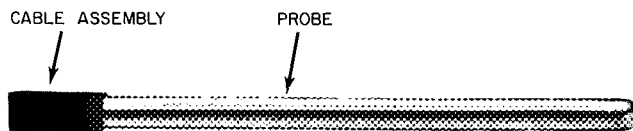
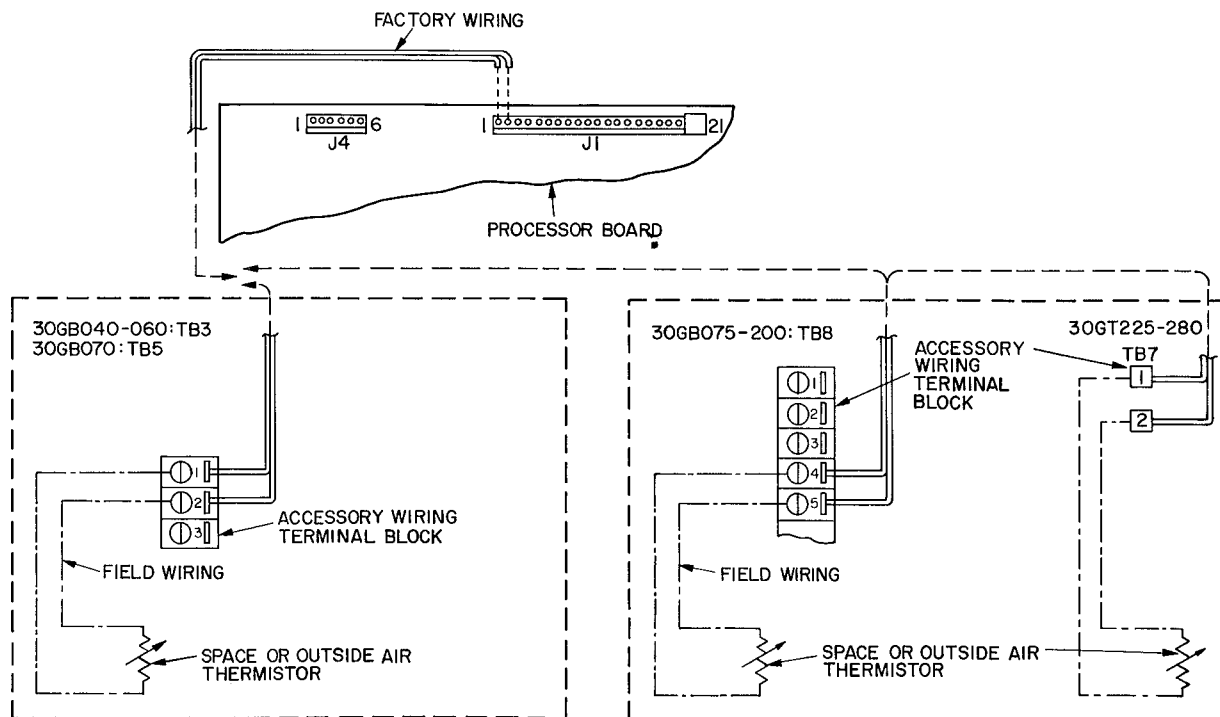

Fig. 17 — Reset Thermistor
Fig. 18 — Space/Outside Air Thermistor Wiring Diagram
6. To use space temperature reset or outside air reset, an additional thermistor must be installed. Carrier Part No. HH79NZ014 should be used for this purpose (see Fig. 17), it is included in Service Parts package no. 30GB660002. The thermistor should be connected to the terminal block as shown in Fig. 18. To avoid electrical interference DO NOT run the thermistor wire near line voltage wiring, electrical machinery, large contactors or other devices. Wire lengths up to 1000 ft (304 m) may be used with 22-gage wire.